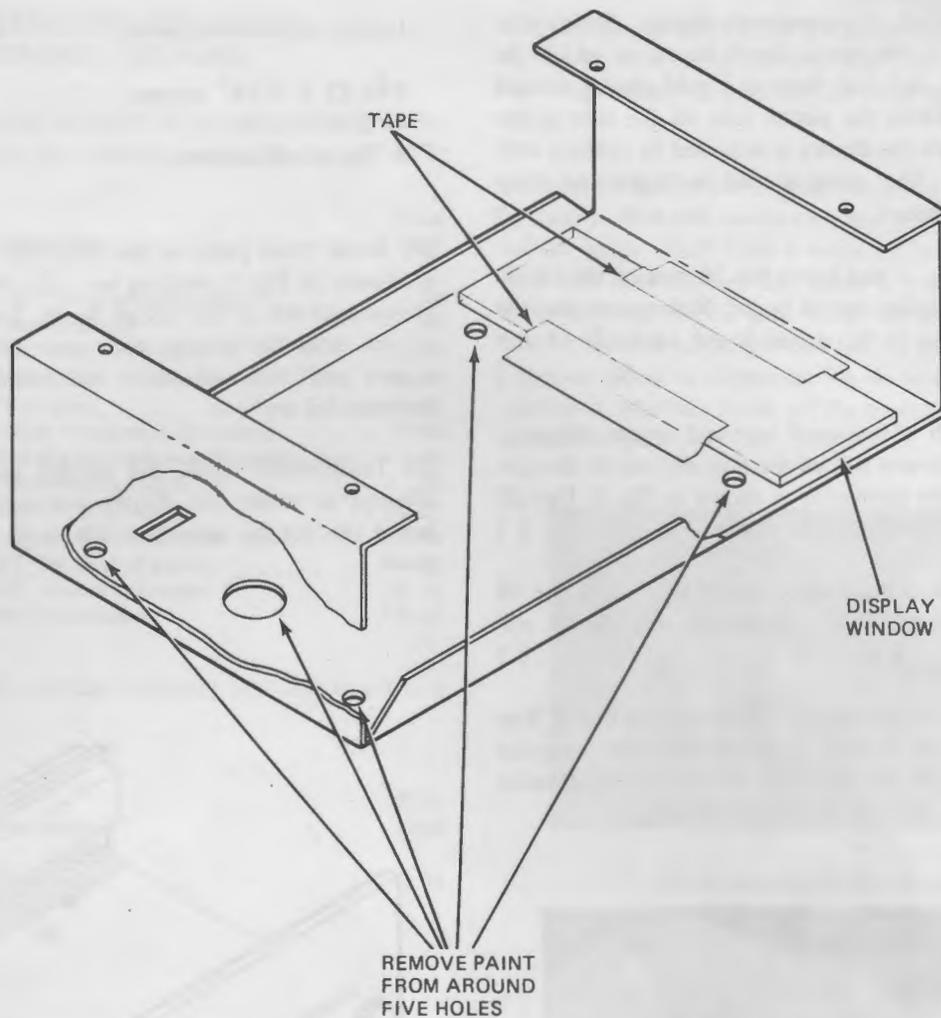

Fig. 8. Preparing the front panel.
Refer to Fig. 8 for the following steps:
- (1) Locate the front panel (PA63) and the display window with masking tape (MS90). Remove the tape from the window and peel off the protective paper from both sides of the window. Place the window over the rectangular opening in the panel and cut two lengths of the masking tape to a size that will enable you to tape the window in place as shown without making the tape visible from the outside of the panel ()
- (2) If there is any paint around the five holes shown in Fig. 8, carefully scrape it away with a knife or a piece of sandpaper ()
- (3) When you have completed the front panel, take the circuit board assembly and place it in position in the inside of the panel. Hold the display with your fingers so it stays in place, and align the four 7/16" spacers with the four mounting holes in the front panel. The display will rest against the display window, and the foamstick tape will compress slightly as you